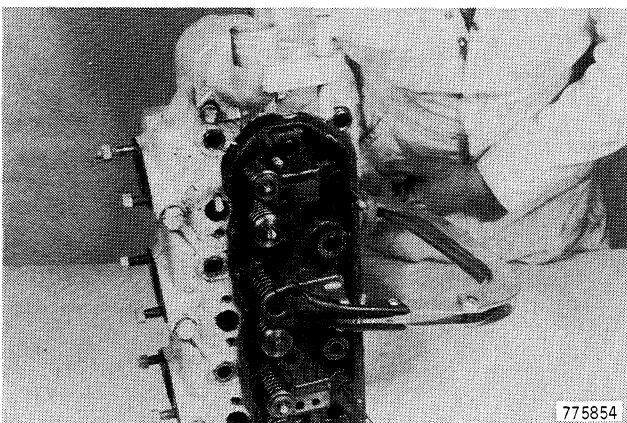

Figure 126
- 4. Install the valve spring compressing tool and compress the valve spring, Figure 126.